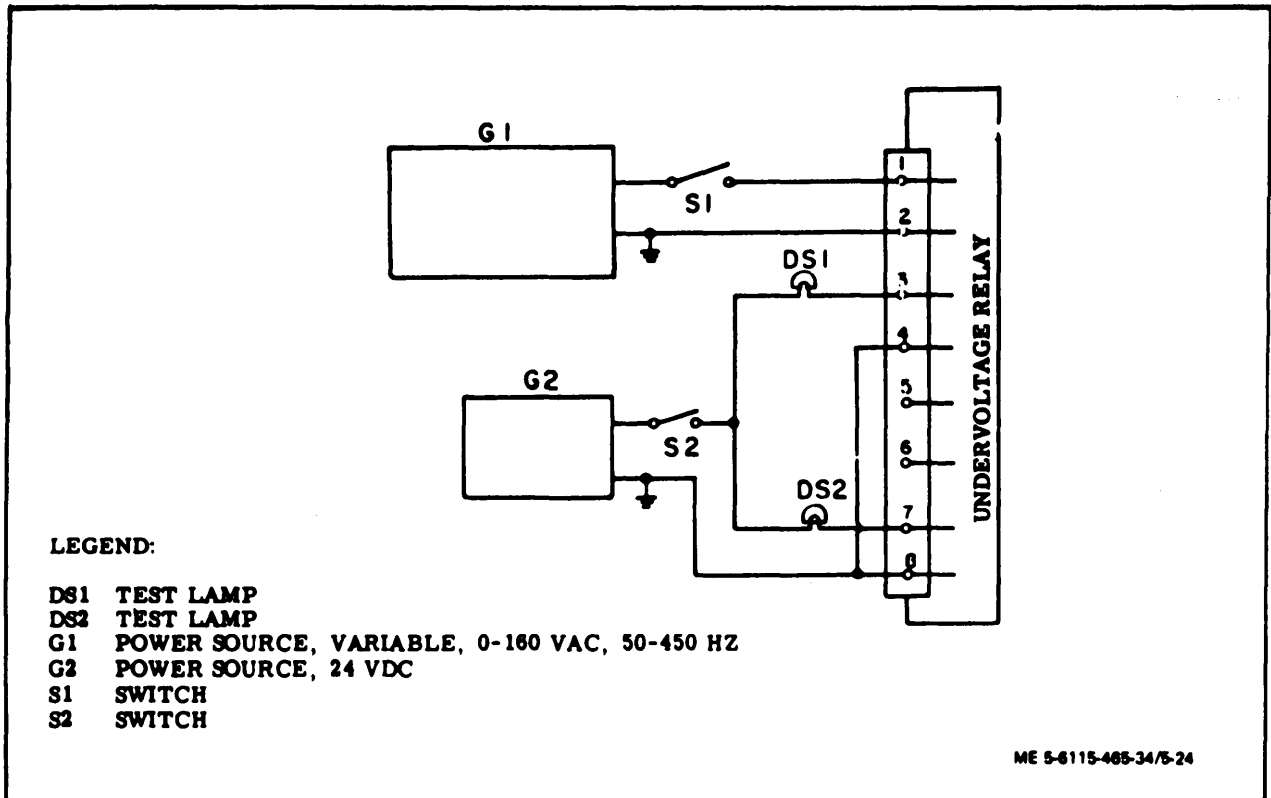

Figure 5-24. Under Voltage Relay Test Circuit
- (1) Clean precise relay assembly with filtered compressed air and a soft bristle brush. If necessary, caked deposits may be removed with a clean, lint-free cloth moistened with an approved solvent. Dry thoroughly after cleaning with solvent.
- (2) Visually inspect cover and chassis for cracks, corrosion, warping, defective paint and illegible markings.
- (3) Inspect wiring harness for damaged wires and connectors for bent or broken connector pins and burned areas indicating shorts.
- (4) Inspect switch (50/60 Hz only) for cracked casing, burro, corroded terminals and other damage.
- (5) Inspect relays for cracked casing, corroded terminals, and evidence of shorting or other damage.
- (6) Inspect resistors and capacitors of electronic components assembly for insecure mounting and burns or other evidence of shorting.
- (7) Inspect terminal board assembly for cracks, corroded terminals, damaged terminal jumpers and evidence of shorting.
- (8) Test under voltage relay as follows:
- (a) Install relay in test circuit shown in figure 5-24.